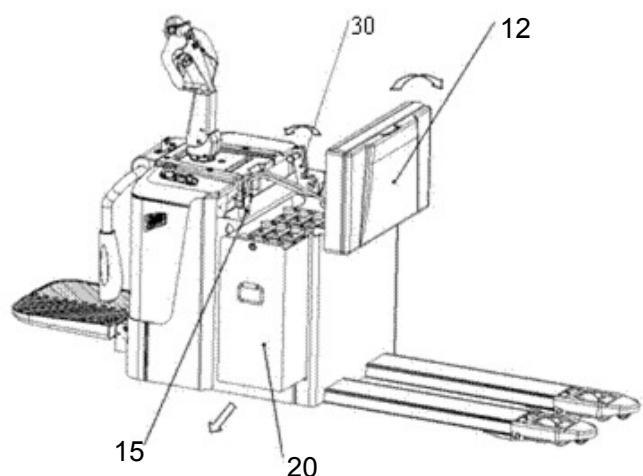

Fig. 16: Battery replacement
Park the truck securely and switch off the truck with the key switch (18), and push the emergency button (10). Then open the battery cover (12) and let it stay upright. Remove the battery plug (15) and the battery lock (30). Then pull out the battery (20) according to fig. 16 to the securely parked and docked battery exchange system, if you would like to exchange to the side.